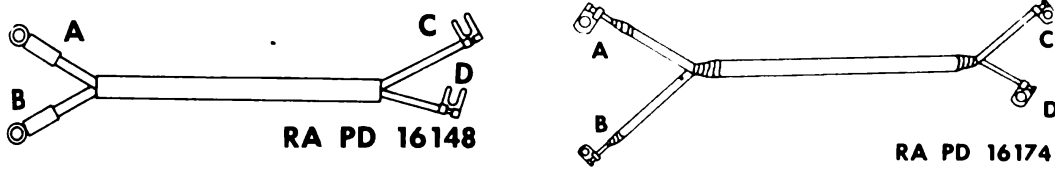

Figure 102—Horn, and Coil and Starter Harnesses
f. Junction Block to Coil and Starter Harness (Fig. 102). This